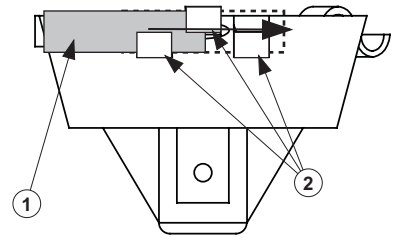

Figure 2: DT-2 Side View
2. See Figure 2. When using the detector's built-in test feature, place the supplied magnet (#1) horizontally in the magnet slot (#2).